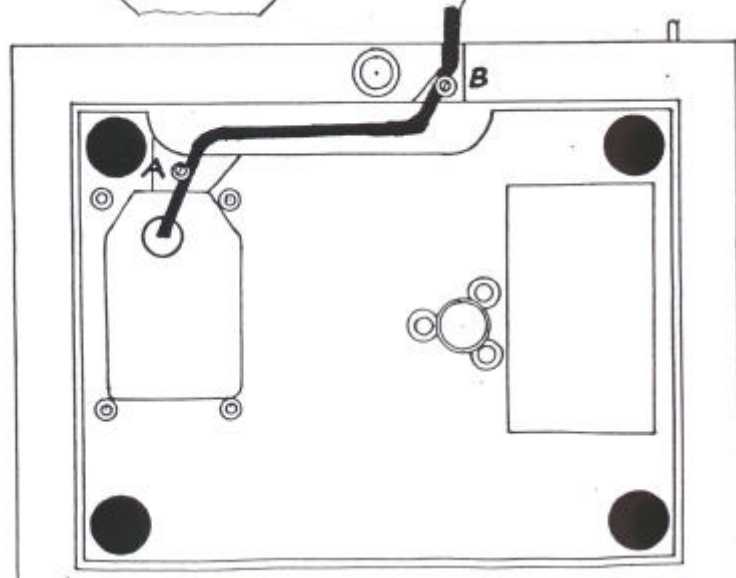

Fig. 12
- iii) There are two fixing points for the cable, one on the subchassis A. and the other on frame near rear leg B. Secure cable in curve between these two points. Ensure that there is adequate cable from tonearm to allow for height adjustment of tonearm. (Fig. 12)